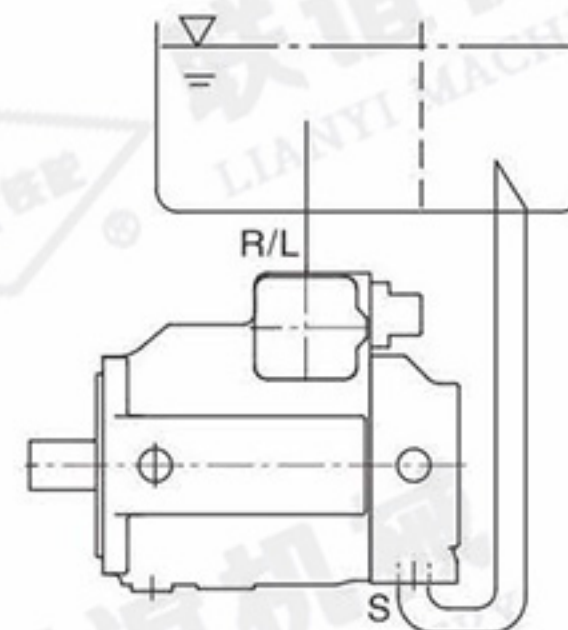

图5
b) 如安装在油箱之下，《R/L》和《S》口用管道连接，如图5所示。
For mounting under the tank, port R/L and S must be connected with pipes, as shown in Figure 5.